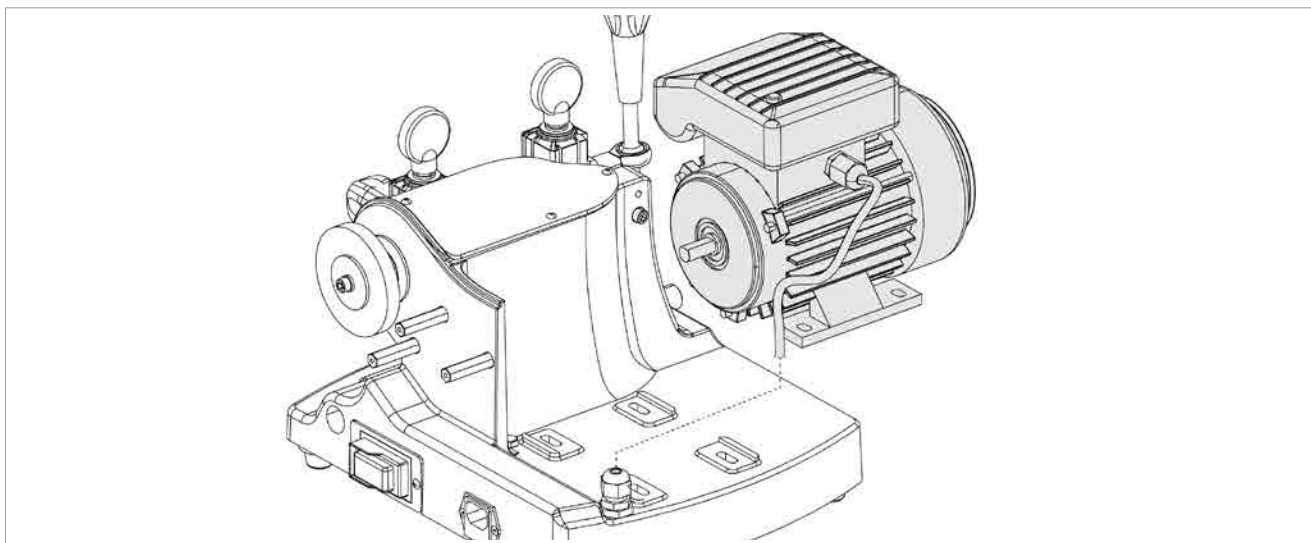

Fig.43
- 10) Pull out the motor cable and remove the motor (Fig.43).